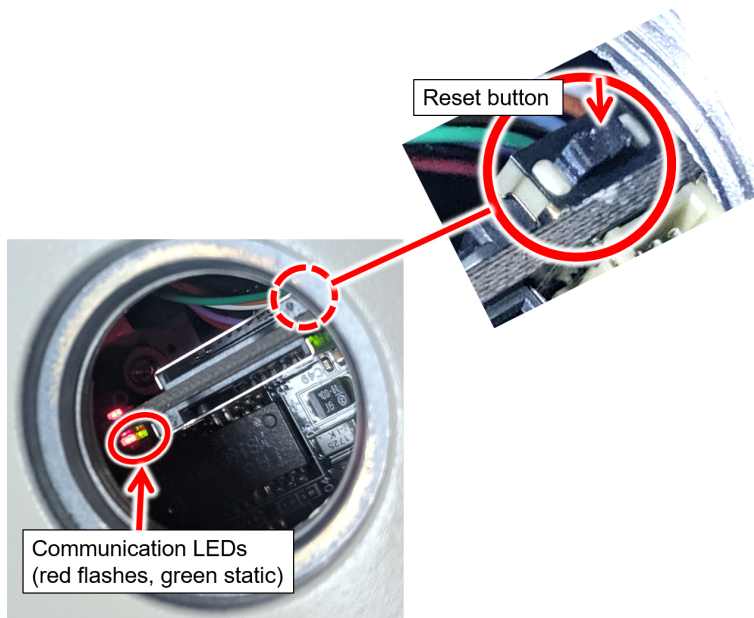

Figure 23. Factory Default (Reset) Button and LEDs
2. Locate the Factory Default (reset) button (see Figure 23).